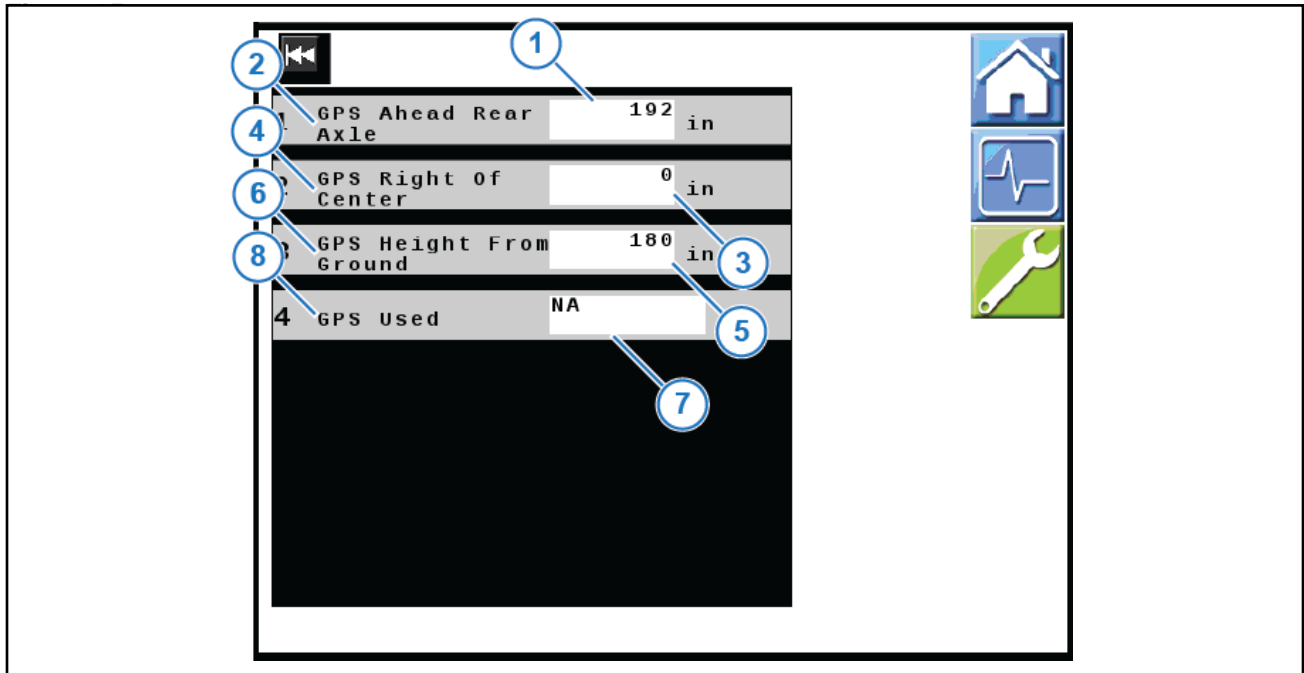

Figure 25: Implement Screen 2
13. Select the box (Figure 25, Item 1) next to GPS Ahead Rear Axle (Figure 25, Item 2).
15. Select the box (Figure 25, Item 3) next to GPS Right of Center (Figure 25, Item 4).
17. Select the box (Figure 25, Item 5) next to GPS Height From Ground (Figure 25, Item 6).
19. Select the box (Figure 25, Item 7) next to GPS Used (Figure 25, Item 8).